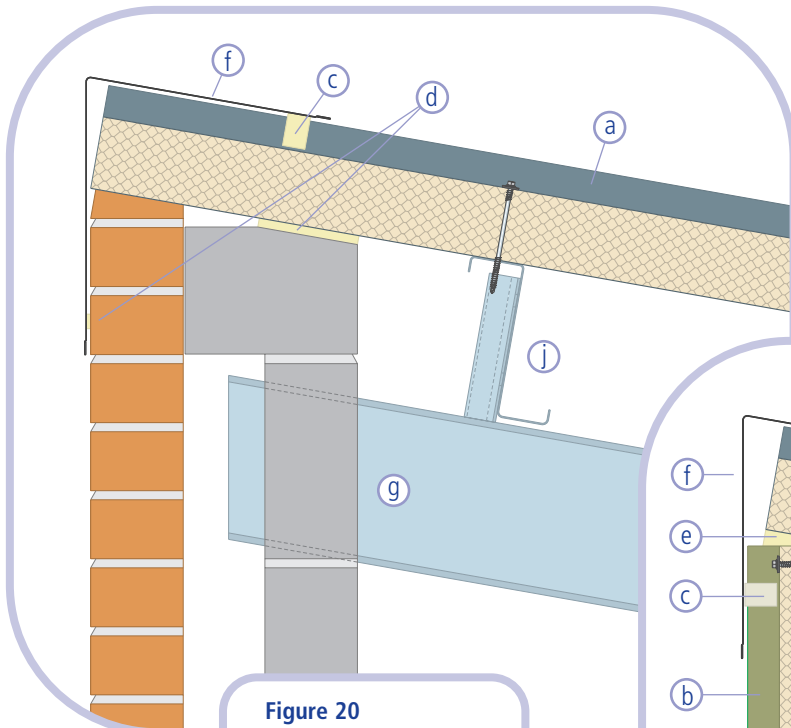

Figure 20
- Key to figures 20, 21 & 22**